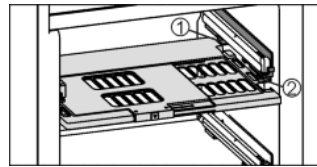

Fig. 17
- ▶ To insert the humidity control plate: Insert the cover mouldings of the plate into the rear holder *Fig. 17 (1)* from underneath and engage them in the holder *Fig. 17 (2)* at the front.